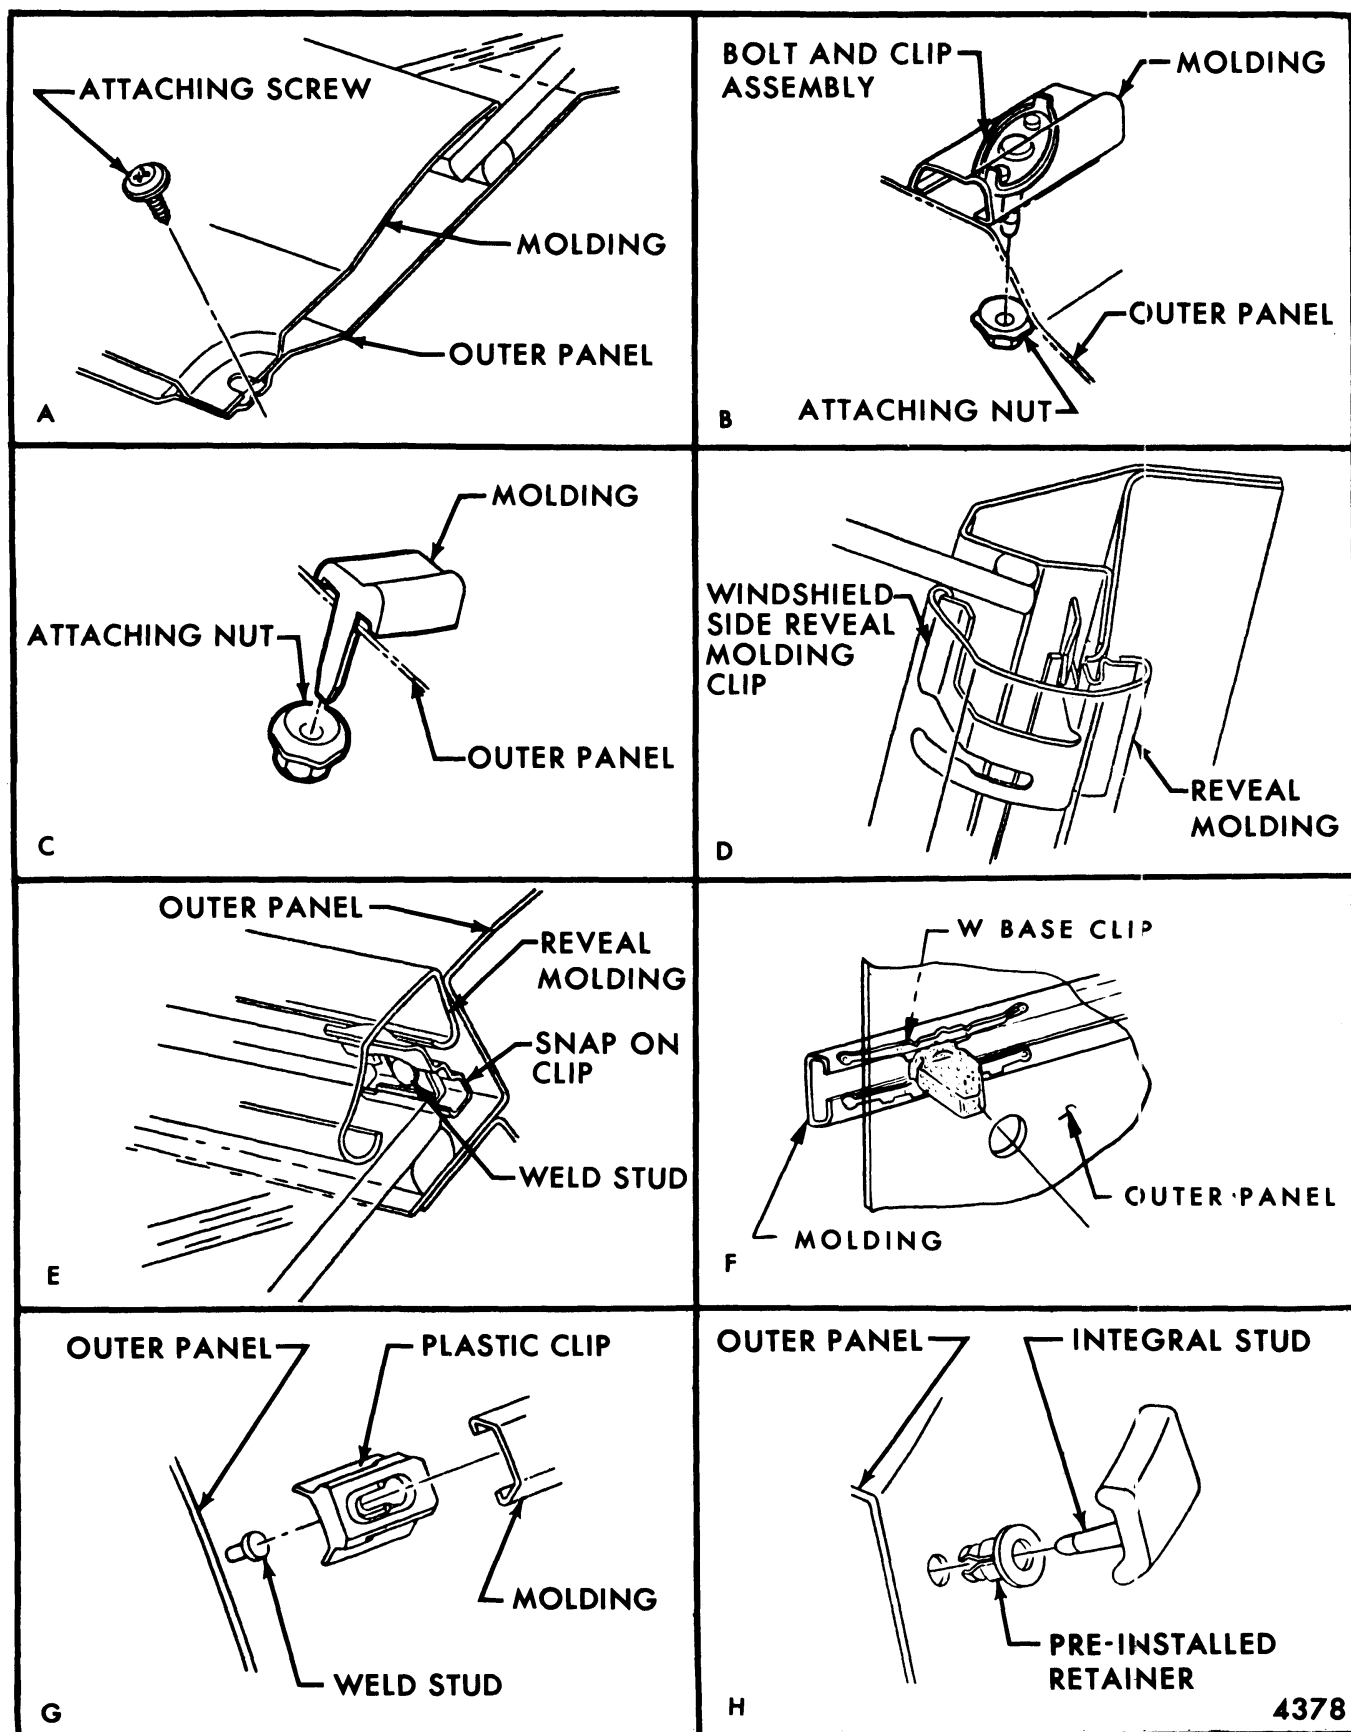
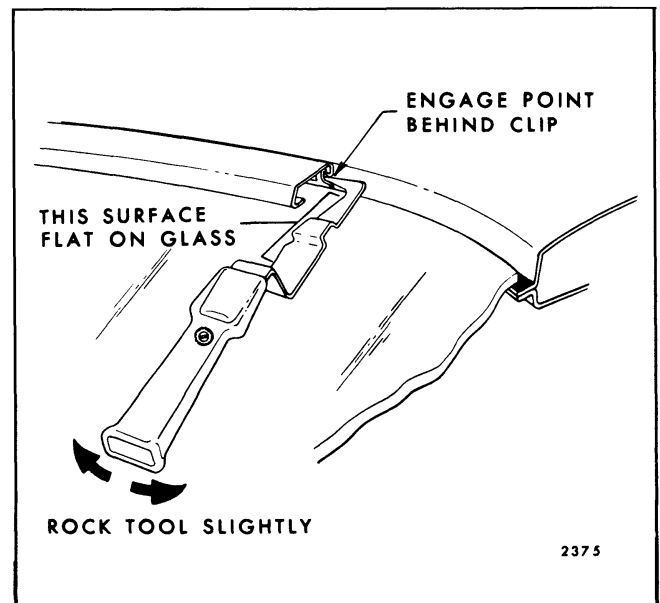

Fig. 11-1-Exterior Molding Attachments
Fig. 11-5-Reveal Molding Removal Tool Usage Procedure (Illustrated Tool Is For "X" Styles Only, Refer to Fig. 11-4 For Other Tool Usage)
The exterior moldings are secured to the body by any one or a combination of the following attachments. Refer to Fig. 11-1, 11-2 and 11-3 for illustrations of attachments.
4. Turn to the attachment illustrations (Fig. 11-1, 11-2 and 11-3) and locate the letter(s) for appropriate method of retention.
Reveal moldings around adhesive caulked glass installations are retained by clips, which are attached to the body opening by weld-on studs or screws. A projection on the clip engages the reveal molding flange, retaining the molding between the clip and body metal (View "E", Fig. 11-1). To disengage a molding from retaining clips, use appropriate tool (see chart on Fig. 11-4) as shown in Figure 11-5 (equivalent tools may be used). Windshield side reveal moldings on "B, C, D, E and F" hardtop styles are retained by barbed clips (View "D", Fig. 11-1).